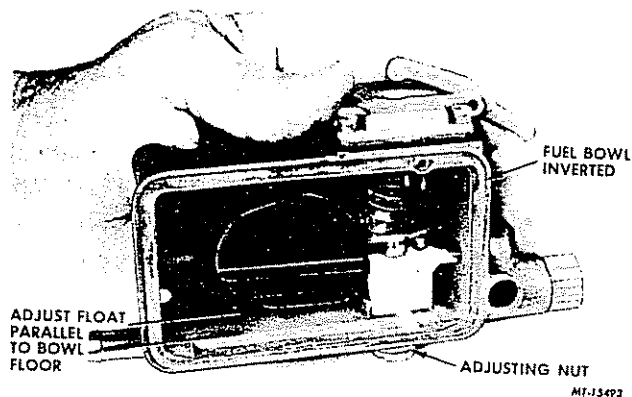

FIG. 37 — PRELIMINARY FLOAT ADJUSTMENT EXTERNALLY ADJUSTABLE FUEL INLET VALVE — INTERNALLY ADJUSTED FUEL INLET IS SIMILAR
5. Install the fuel inlet needle and seat assembly through the top of the fuel bowl. Then install the adjusting nut gasket. Align the flats of the seat and the adjusting nut and install the nut. Install the lock screw and gasket. Invert the bowl and turn the adjusting nut until top of float is parallel to top of bowl. This preliminary adjustment will run the engine until the fuel level can be properly checked through the sight plug hole after the carburetor has been installed on the engine (Fig. 37).
6. Slide the inlet baffle into the grooves (Fig. 37).
4. Install float assembly as described under Step 7. To adjust the dry float setting (internal needle and seat), adjust float parallel to bowl floor as illustrated in (Fig. 37). If an adjustment is necessary, carefully bend float tang until proper adjustment has been obtained using care not to nick or damage portion of tang which contacts needle.